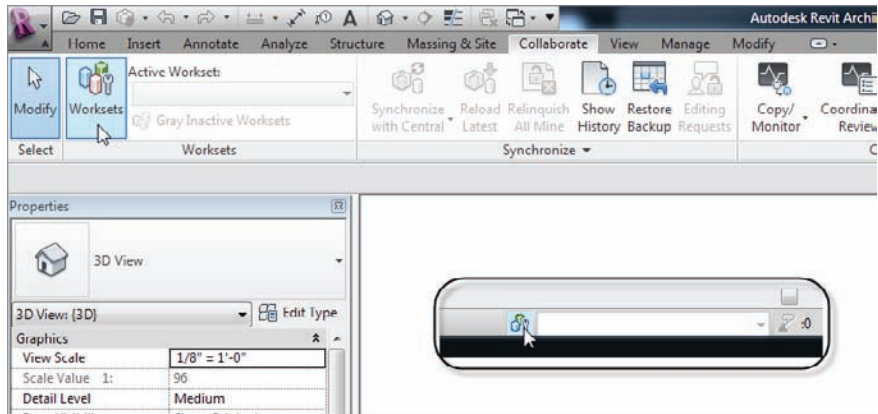

FIGURE 22.2 Clicking the Worksharing button
2. On the Collaborate tab, click the Worksets button on the Worksets panel, as shown in Figure 22.2. Note that the Worksharing button is also on the status bar at the bottom of the Revit window.